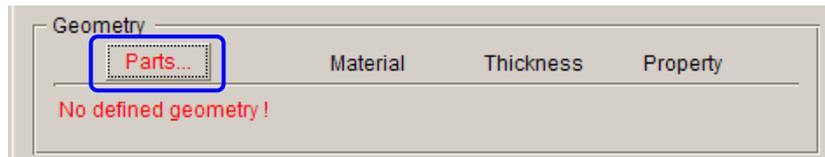

Figure 7.6 Define blank
2. Then, click **Parts...** button from **Geometry** field in blank definition interface. See Figure 7.6.